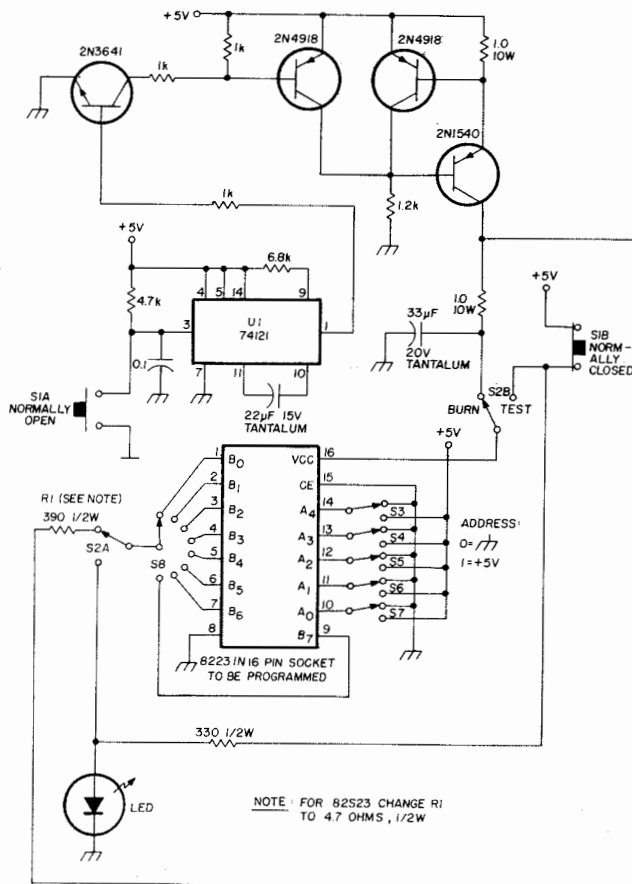

fig. 3. Circuit for programming the 8223 proms.
The circuit in **fig. 3** makes programming a cinch as the burn-out time is automatically determined by the 74121 one-shot, U1. The time is fixed at 150 milliseconds. Programming must be done carefully, while you're wide awake, or mistakes are bound to occur! The +15 and +5-volt leads must be connected to a regulated power supply that provides at least 1 ampere. Proceed as follows:
3. Set the address line switches, S3-S7 (**fig. 3**) according to the information in the table: *A4* = high; *A3* = low; *A2* = high; *A1* = low; and *A0* = high — i.e., 10101. (Low is ground and high is +5 volts.)
Type 82S23 proms are presently offered on the surplus market at a reasonable price. These can also be used, but to program these devices the 390-ohm 1/2-watt resistor at the top contact of S2A (fig. 3) must be changed to 4.7 ohms 1/2-watt, and the +15-volt supply must be increased to 16 volts.